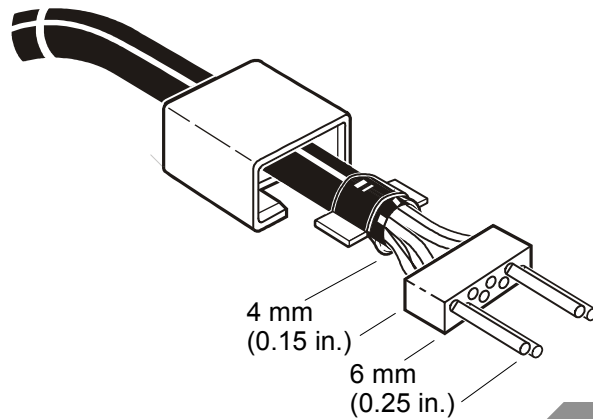

Figure 42 – Positioning the management bar
10. Slide the management bar towards the cable jacket until there is no more than 4 mm (0.15 in.) between the bar and the jacket; see Figure 42.
1. Trim all the conductors so that they extend from the management bar by 6 mm (0.25 in.); see Figure 42.